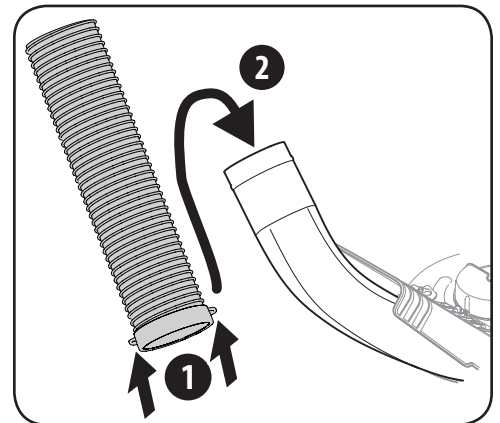

Figure 4-22
- Lift by the handles at the bottom of the chute tube. Slide the chute tube over the chute elbow mounted on the cutting deck, as shown in Figure 4-22.